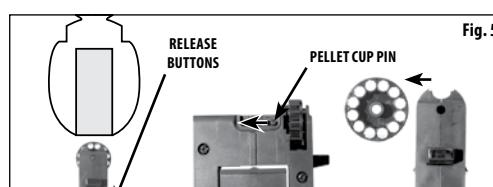

Fig. 5
3. Slide the pellet clip pin forward and remove the pellet clip from the side of the pellet magazine. (Fig. 5)
3. Slide the pellet clip pin forward and remove the pellet clip from the side of the pellet magazine (Fig. 5).